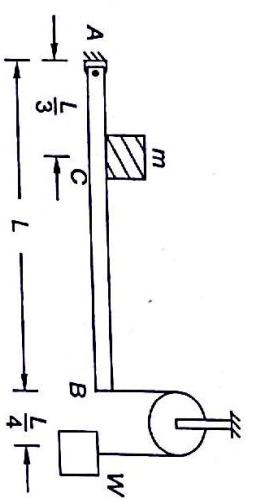

Fig. 3.64
- 3.7 A bar AB of length L is hinged at end A . It carries a block of mass m at C as shown in Fig. 3.64. What is load W at end of rope passing over a pulley so as to maintain equilibrium?